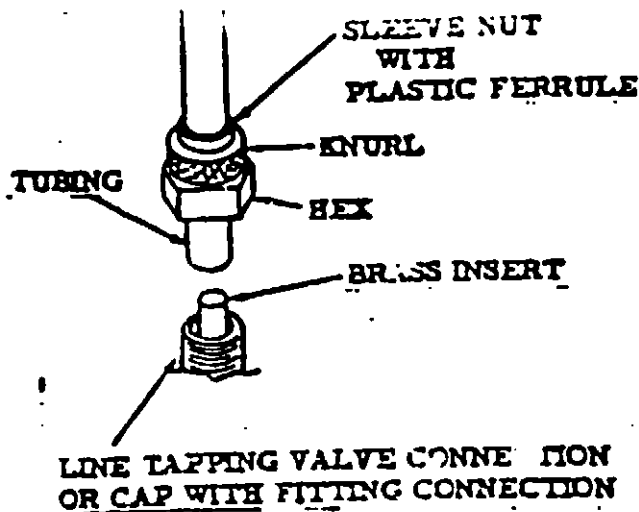

Figure 5 Tubing Connections
- b. Slide the sleeve nut with plastic ferrule onto the tubing as shown in Figure 5.
b. Slide the sleeve nut with plastic ferrule onto the tubing as shown in Figure 5.